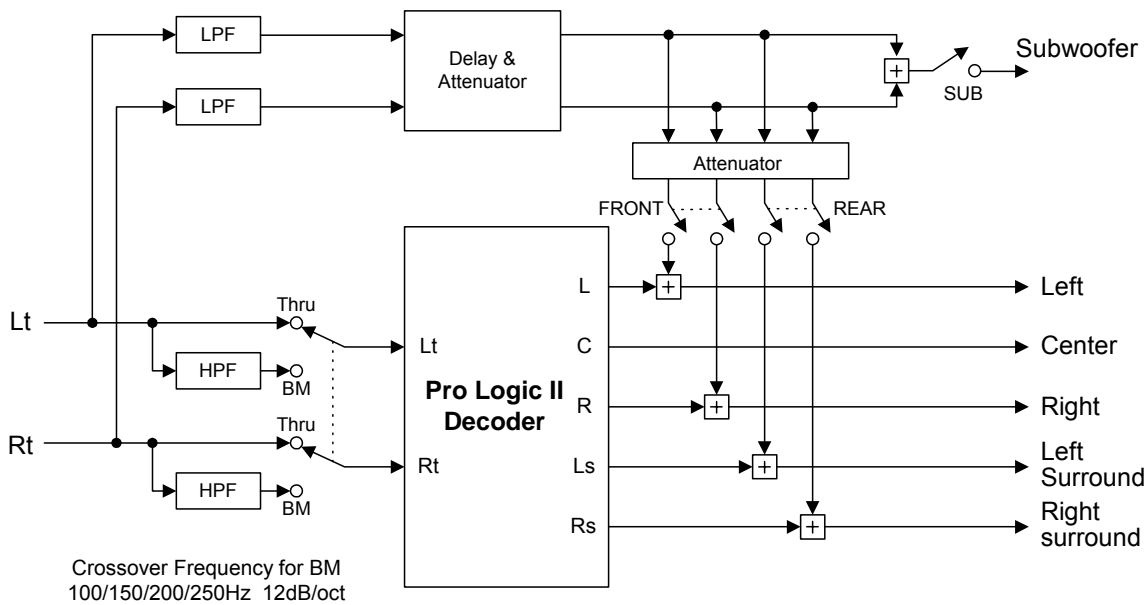

Fig.5 Bass Management Function Block Diagram
3. The 4 types of low frequency destinations are selectable. ( Fig. 5 )